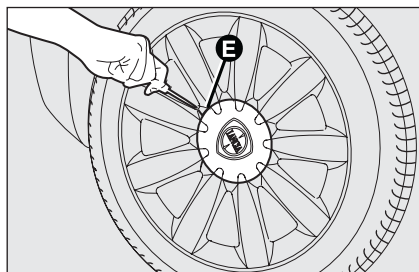

fig. 11
- ☐ for cars fitting alloy rims, remove the hub cap using the screwdriver provided levering in groove **E**-fig. 11, as shown in the figure;